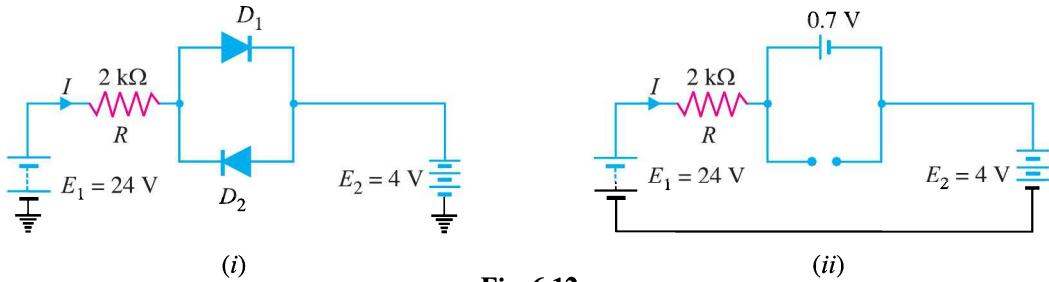

Fig. 6.12
**Example 6.5.** Determine the current  $I$  in the circuit shown in Fig. 6.12 (i). Assume the diodes to be of silicon and forward resistance of diodes to be zero.
**Solution.** The conditions of the problem suggest that diode D1 is forward biased and diode D2 is reverse biased. We can, therefore, consider the branch containing diode D2 as open as shown in Fig. 6.12 (ii). Further, diode D1 can be replaced by its simplified model circuit.